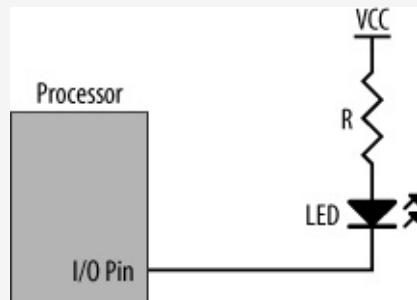

Figure 15-4. Status LED
The circuit for a status LED is shown in Figure 15-4. It uses an I/O line of the microcontroller to switch the LED on or off. Sending it low will turn on the LED. Sending it high will turn off the LED, as we'll soon see. The resistor (R) is used to limit the current sinking into the I/O line, as we shall also see shortly.